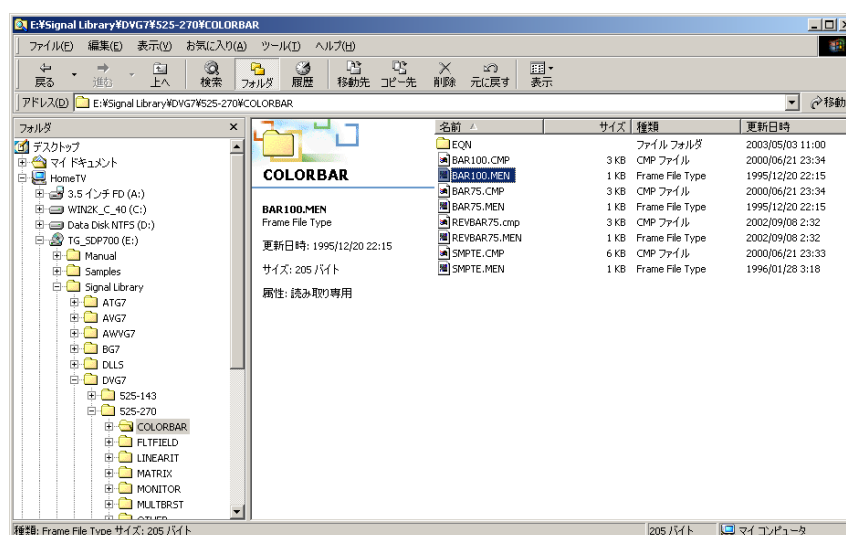

Figure 4 Selection of MEN File (BAR100.MEN)
STEP 4 From Test Signal Button directory, select to open a MEN file of the test signal to be referenced (refer to Figure 4). When the MEN file does not open even if double-clicked on it, open the MEN file from File Open menu of SDP2000. To each of MEN files, a file name relevant to the test signal is assigned with the restriction to be less than 8 characters. In the example shown in Figure 4, BAR100.MEN is selected. This is the MEN file of 100% COLORBAR signal.